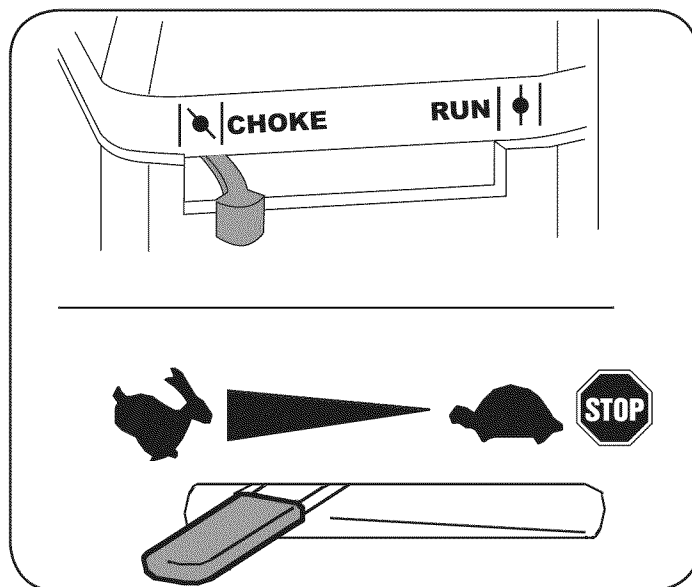

Figure 9
4. Move the choke lever on the engine to CHOKE  position. (A warm engine may not require choking.) See Figure 9.
5. Move throttle control to START/RUN (Rabbit)  position. See Figure 9.